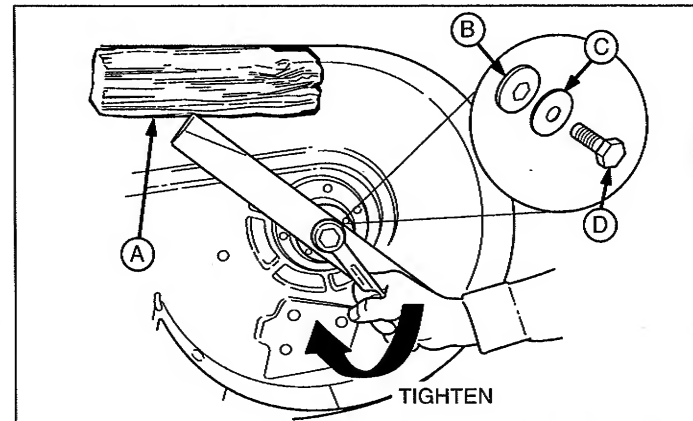

Figure 41. Installing The Blade - 44" & 50" Models
6. Reinstall each blade with the tabs pointing up toward deck as shown in Figure 41. Secure with a capscrew, spring washer and hex washer (be certain the hex washer is aligned with the hex shaft). Use a wooden block to prevent blade rotation and torque capscrews to 45-55 ft.lbs. (61-75 N.m.).